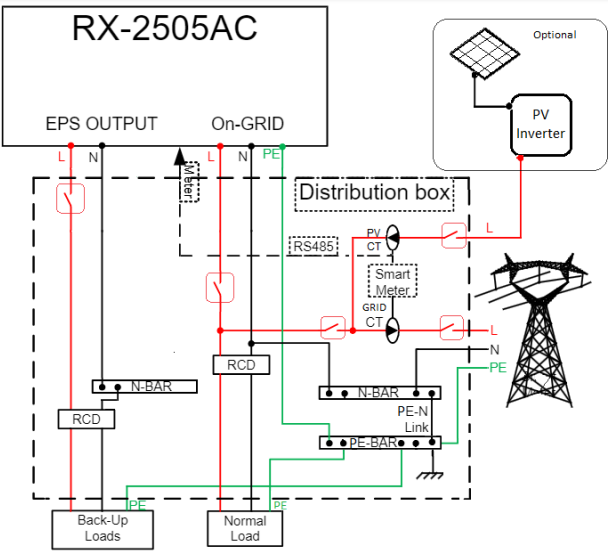

Figure 5-6 – 240V connection diagram Off-grid and On-grid
2. If you need to use both the grid connection and backup power supply functions, refer to Figure 5-6 to connect cables.